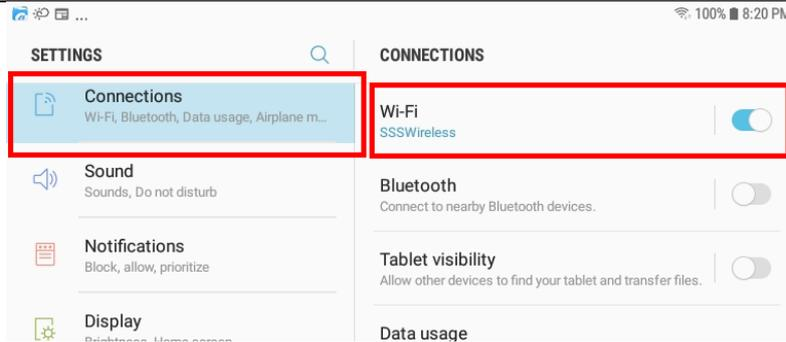

Figure 17 The Wi-Fi Connection page in the Android Settings app
- (3) Make sure power is on, the WFD-28 is connected to the track and there is a locomotive on the track with a DCC address that you know. Both the red power LED should and the blue DCC indicator LED should be alight constantly.
- (4) Tap the Home button, and run the settings app on your Android phone.
- (5) Tap Connections on the left, then Wi-Fi on the right as Figure 17 (This may vary with different versions of Android).